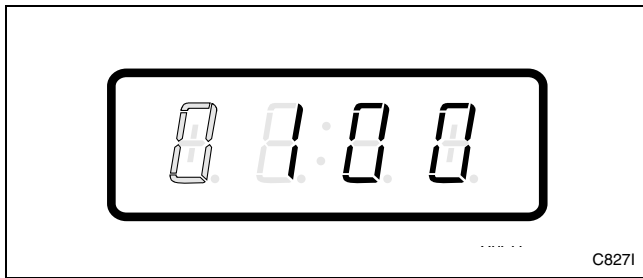

Figure 96
6. Press the START (enter) keypad to enter the fifth digit and display remaining four digits. The active digit will flash one second on and one second off. Refer to *Figure 96*.